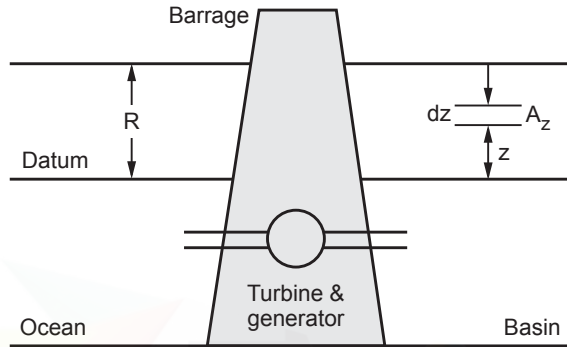

Fig. 5.1.14 Ocean with single basin tidal project
- Let  $R$  be the range of the tide and  $V$  the volume of water stored from the low level to high tide level as shown in Fig. 5.1.14.